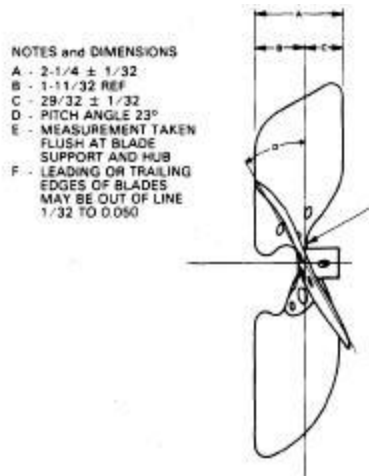

Figure 11-10. Condenser Fan
- a. If a used fan is to be installed, check the blades and adjust them in accordance with Figure 11-10.